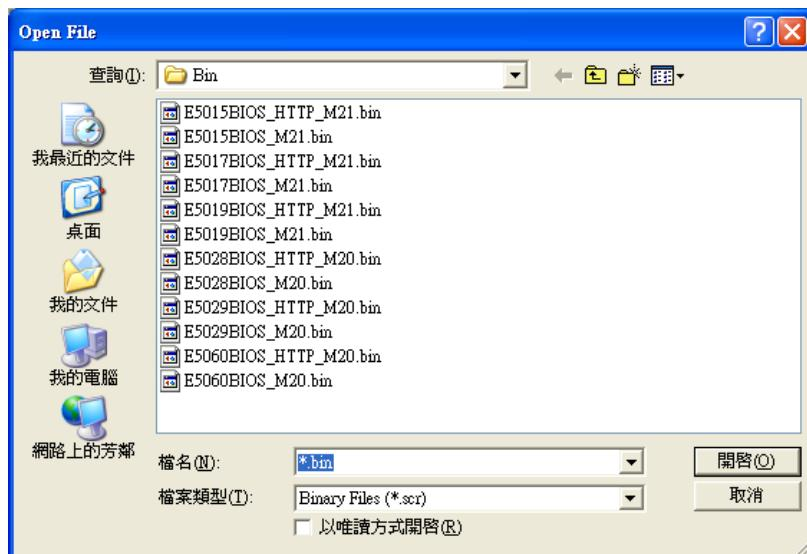

Figure -6
6. Select the firmware file you are going to update (see Figure -6)